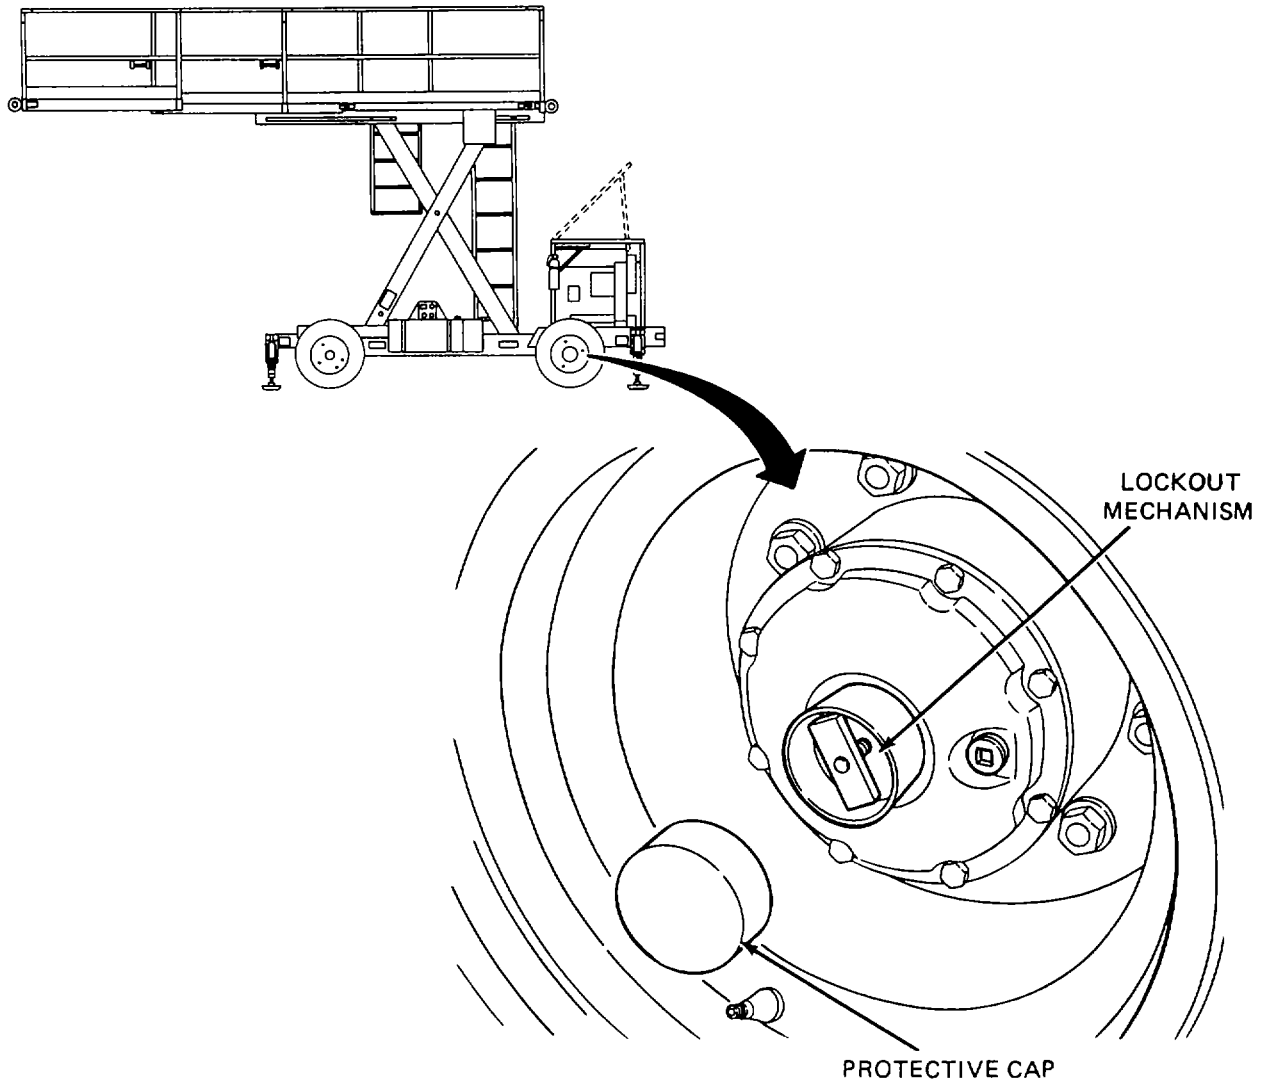

Figure 2-27. Drive Wheel Hub.
- (6) Disengage the left rear drive wheel hub so it is in the free-wheel mode.
- (a) Remove red protective cap. This will expose the handle of the lock-out mechanism. See Figure 2-27.